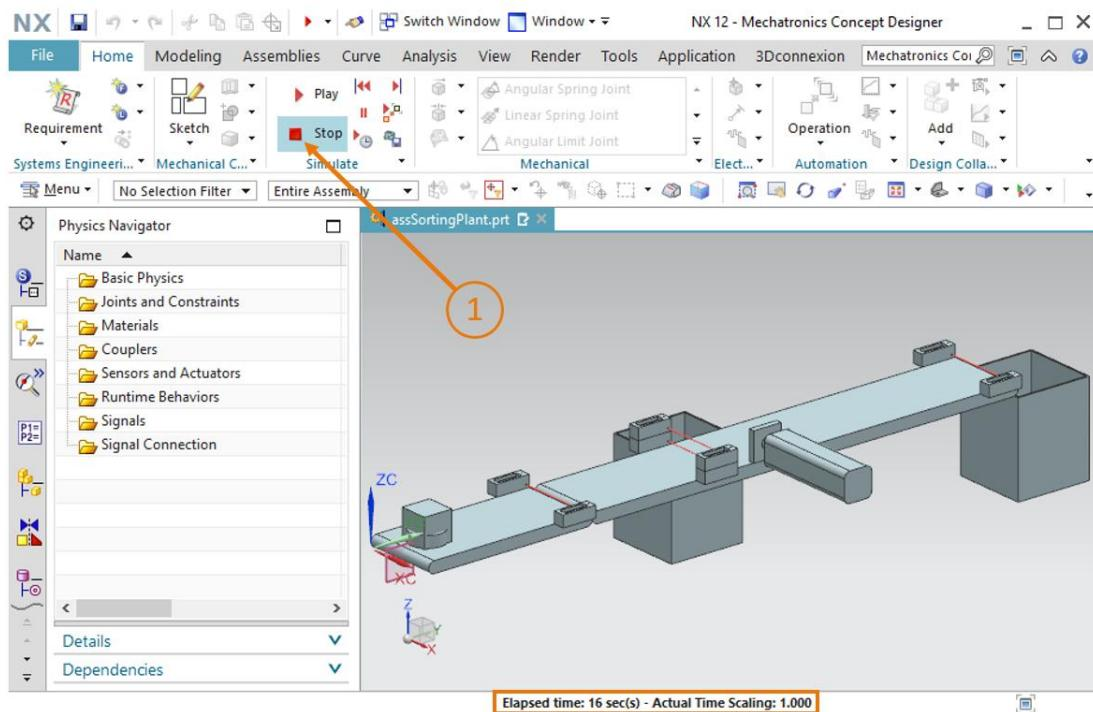

Figure 9: Stopping a simulation in MCD
- You are able to tell that a simulation is running by a display of the elapsed simulation time in the footer (see Figure 9, orange frame). You can also see in this case that the assembly in the three-dimensional graphics window does not change. Although you have opened MCD, no physical or kinematic properties have been defined yet. Stop the simulation again by clicking the "Stop" button (see Figure 9, step 1).